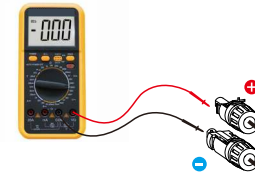
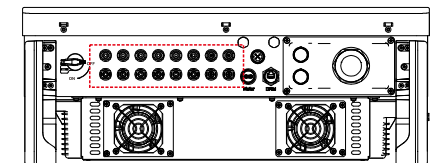

Figure 5.21 Multimeter measurement
Figure 5.22 Connect the DC Connectors to the Inverter
5. Measure PV voltage of DC input with multimeter, verify DC input cable polar (see figure 5.21), and ensure each string of PV voltage in range of inverter operation. Connect DC connector with inverter until hearing a slight clicking sound indicates connection succeed. (see figure 5.22)